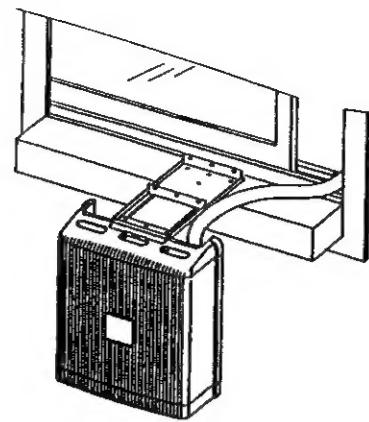
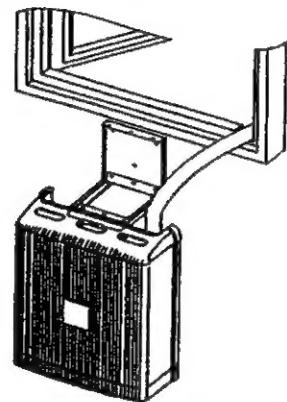
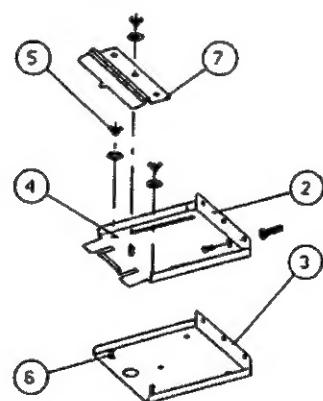

Figure 5. Suspending outdoor unit from window sill
Figure 6. Suspending outdoor unit from wall
Figure 7. Outdoor unit supporting kit
A standard kit (Figure 7), supplied with the air conditioner for supporting the outdoor unit, makes it possible to mount it either from a window sill (Figure 5) or on the wall (Figure 6).
1. Slip the unit handle over the sliding bracket (2)(Figure 7) of the unit support (see Figures 5 and 6).
2. For window mounting, refer to figure 5. Place the fixed support (3) (Figure 7) on the window frame, drill three holes in the window frame and mount the support securely with three screws.
3. Place the sliding bracket (2) so that its slots (4) fit into the matching studs (6) in the fixed support (3). Secure sliding bracket with wing nuts (5) (Figure 7). Suspend the outdoor unit on the sliding bracket.
4. Slide the unit to the most suitable place (minimum 100 mm from wall) and tighten the two wing nuts (5) (Figure 7).
5. Place the securing bracket (7) (Figure 7) in place and tighten it. Verify that the unit is well supported, stable and secured.
6. For wall mounting, refer to Figure 6. Place fixed bracket (3) against wall, drill three holes in the wall and fasten with three screws; verify that the support is level.
7. Engage the sliding bracket with the two holes over the two studs and tighten the wing nuts (5). Install the securing bracket (7). Verify that the unit is well supported and stable.